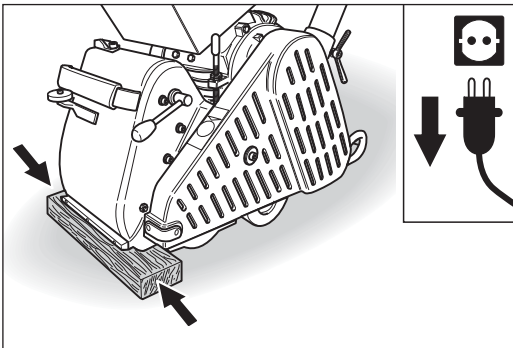

Fig. 25 Secure the machine against sliding!
- **Secure the machine against sliding! For example, place a flat piece of wood between the floor surface and machine housing (Fig. 25).**